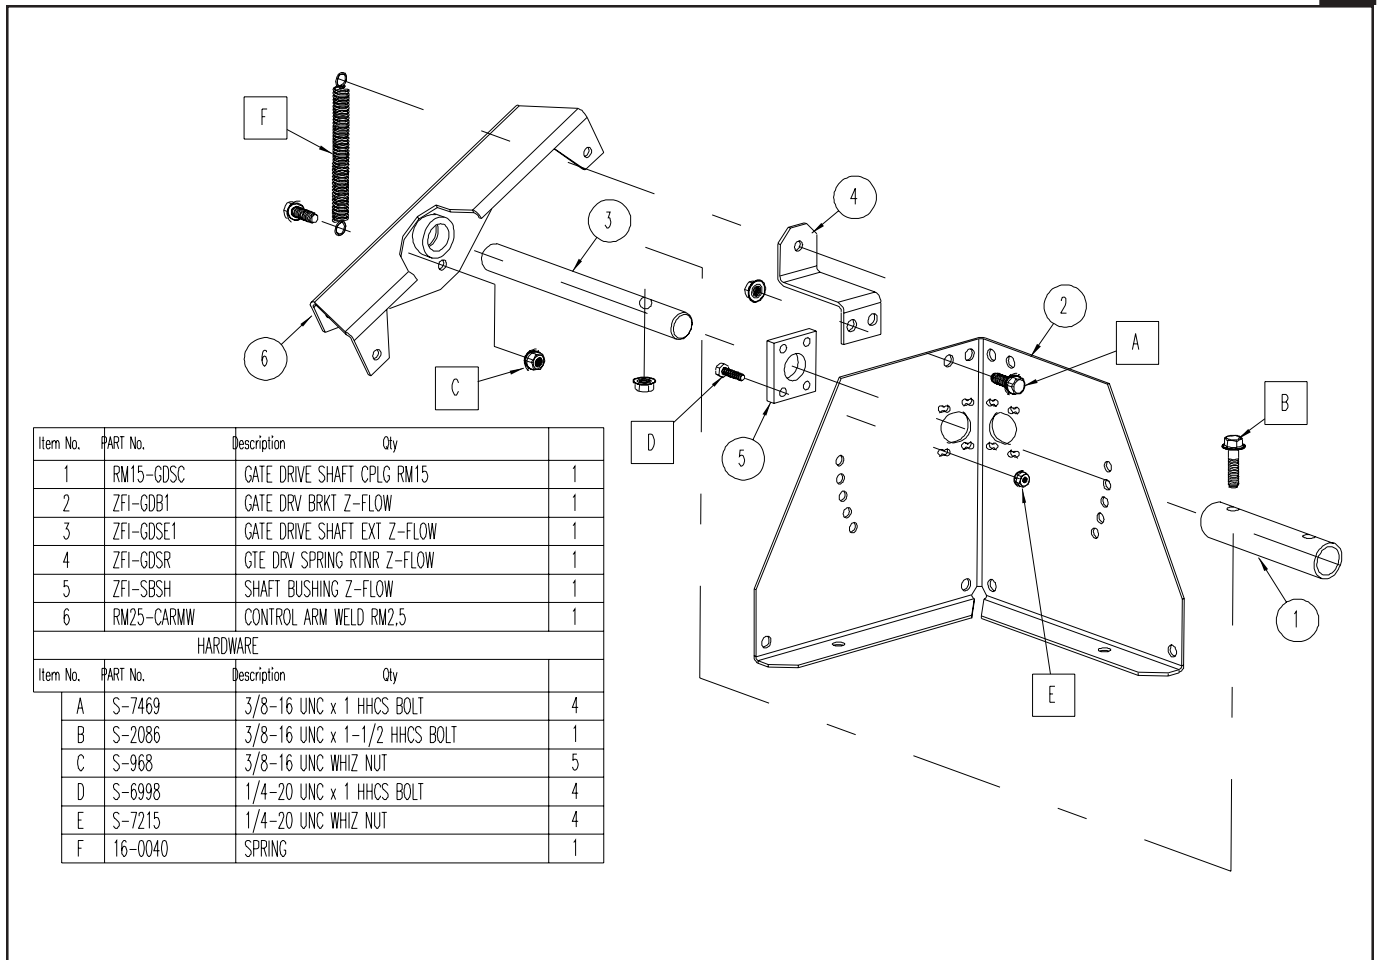

FIGURE 16
**(Refer to Figure 16 for hole alignment.)**
1. Attach Shaft Bushing (5) to Gate Drive Bracket (2) using 1/4" x 1" HHCS Bolts with Whiz Nuts.
2. Fasten the Gate Drive Spring Retainer (4) to the Gate Drive Bracket (2) using 3/8" x 1" HHCS Bolts and Whiz Nuts.
3. Insert Gate Drive Shaft Extension (3) through the Shaft Bushing (5) and Gate Drive Bracket (2) and into the Gate Drive Shaft. Line up the holes in the Gate Drive Shaft (1) and Gate Drive Shaft Extension (3).
4. Slide Control Arm Weldment (6) onto the Gate Drive Shaft Extension (3).